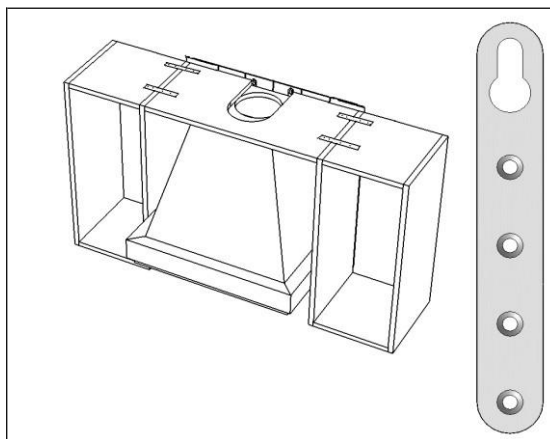

Fig. 19
6. Install the chipboard horizontal panel over the duct (if provided by the design). The frontal part can be closed with a decorative overlay made of solid wood. Before the assembly, make a cut in the panel for the corrugated pipe. Fix the panel between the wall cabinets using non-adjustable brackets with screws 4x16 (Fig. 19).